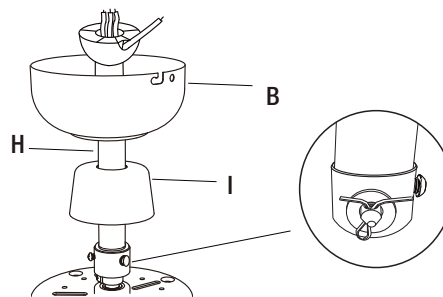

Figure 6
- Loosen the screws first and then insert the downrod assembly (H) into the hanger at the top of the fan motor assembly.
- Push the pivot pin (DD) through the hanger and downrod holes (Figure 6). Pivot pin's insert end is a specially-designed cone shape that pushes away and won't harm the wires inside the downrod. Secure the pivot pin by inserting the split pin and bending the ends to prevent it from falling out of the holes (Figure 6).
- Secure the hanger and downrod by tightening the screws pre-installed on the hanger (Figure 6).